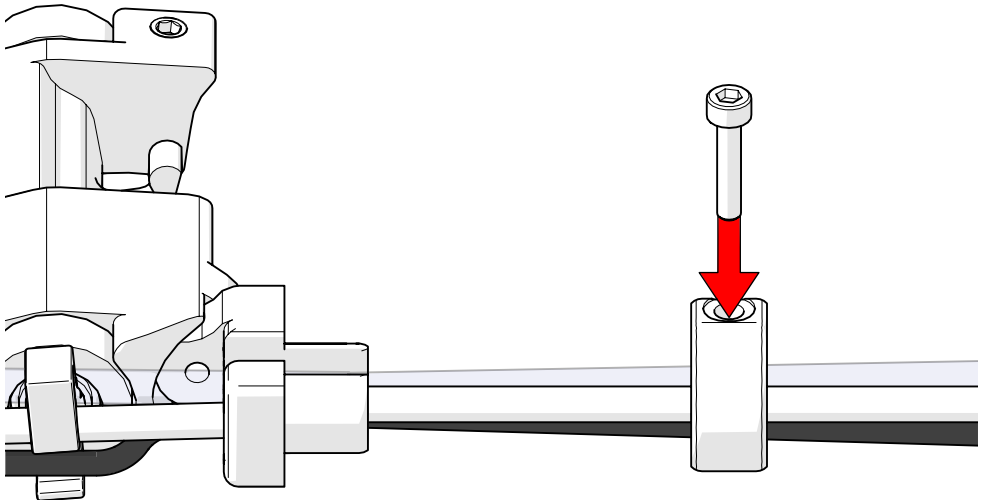

Fig. 61 - Replace sleeve clamp screw
4. Place the sleeve clamp around the cable and hoses, loosely screw in the sleeve clamp screw (Fig. 61).